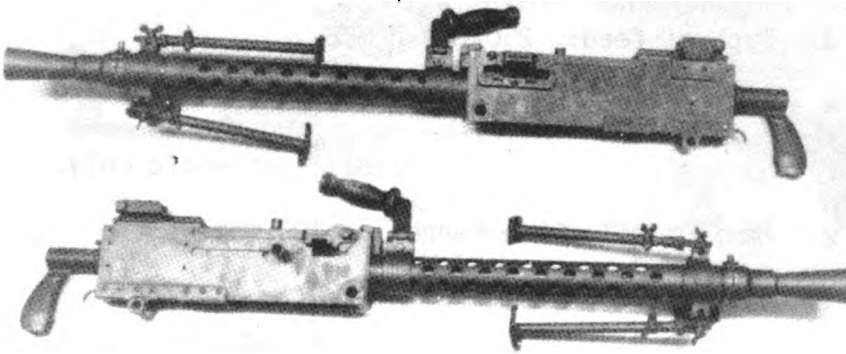

Figure 3
3. Identify The M1919A6. (See fig. 3.)